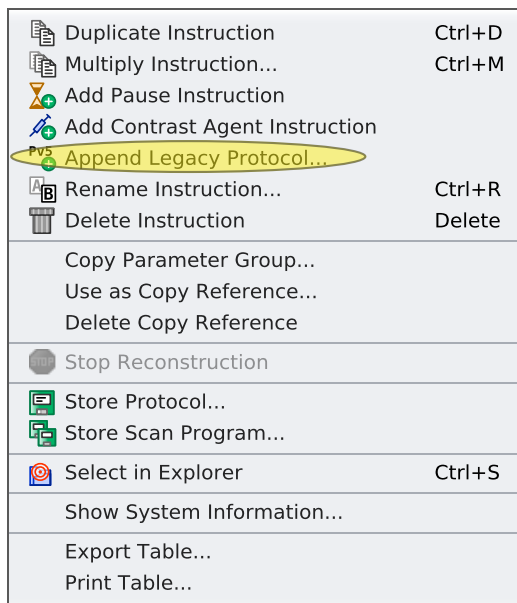

Figure 1.17: Context Menu Examination Card
- ▶ Open the context menu (see [Figure 1.17 \[▶ 44\]](#)) and invoke **Append Legacy Protocol...**